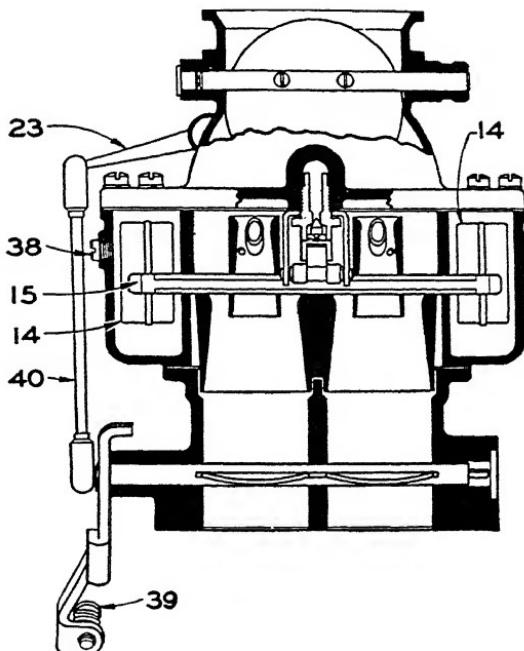

Fig. 106. Buick-Stromberg Carburetor Showing Double Venturi and Barrels
Fig. 105. Part Sectional View through Buick-Stromberg Carburetor Showing Main Metering Jet No. 5. Other parts shown in this figure and in Figs. 106 and 107 are as follows:
**Idle Metering and Adjustment.** When the engine is operating on idle speed, fuel flows from the idle tube 4, Fig. 105, where it is mixed with the air, from the air bleeder at the top of the idle tube. This mixture passes to the idle channel where additional air is mixed with it to the secondary idle air bleeder 8. It is then discharged through idle holes 10. On closed throttle, fuel is drawn from the lower idle discharge hole due to the high suction at this point. As the throttle is opened, suction is also placed on the upper idle discharge holes to feed additional fuel until the throttle is opened to the position where the main discharge jet comes into operation. Before making the adjustment of the idle needle valve, the engine should be well warmed up so that the intake manifold is warm to the hand and the throttle stop screw is on the slow idle. An idle speed of approximately 7 to 8 miles per hour is recommended. This is secured by adjusting the stop screw 39, Fig. 106. Fuel for the low speed adjustment is controlled by means of the idle needle valves 9, Fig. 105. Turning the needle in will give a leaner mixture and turning it out will give a richer mixture. The best plan is to take one barrel at a time and turn the idle adjustment in slowly until the engine begins to lag or run irregularly, after which the needle is slowly turned out until the engine begins to roll or show signs of richness. The last step is to slowly turn in the adjustment again
**Fuel Level.** Normal factory setting for the fuel level is  $\frac{5}{8}$  inches below the top surface of the float chamber which corresponds to the bottom level of the sight plug 38, Fig. 106, with the engine idling. The float 14 and the float needle valve 18 operate to control the fuel level in the float chambers. If there is question of the fuel level being correct, the plug should be removed in order to observe the